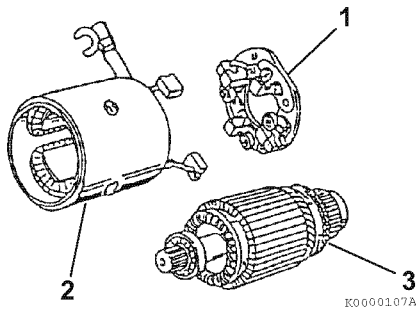

Figure 11-6
5. Remove the brush holder assembly **(Figure 11-6, (1))** from the armature assembly **(Figure 11-6, (3))**.
6. Pull the armature assembly **(Figure 11-6, (3))** out from the field coil assembly **(Figure 11-6, (2))**.